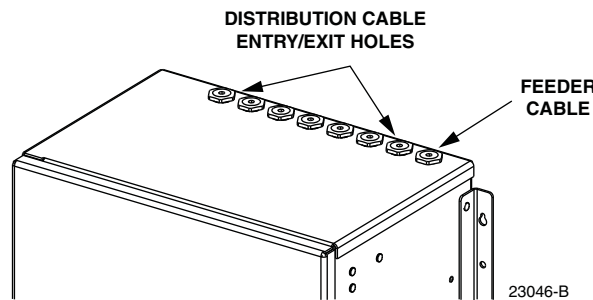

Figure 43. Distribution Cable Entry/Exit Holes
1. Locate the cable entry/exit holes (on top of the cabinet) that are specified for distribution cable installation as shown in Figure 43.